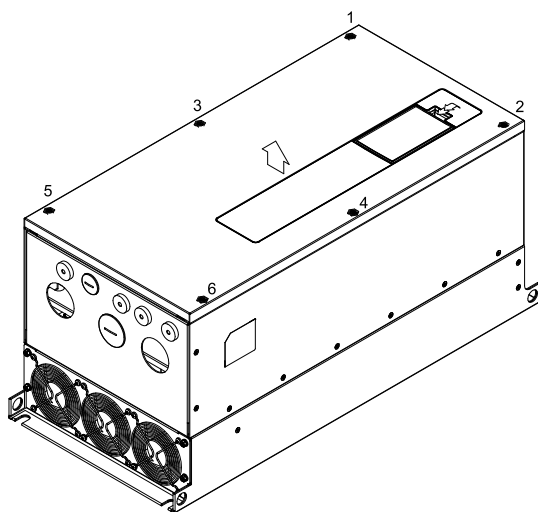

Figure 7-69
1. Press the hook in the top of digital keypad, and then rotate to remove the digital keypad. (Refer to Figure 7-69)